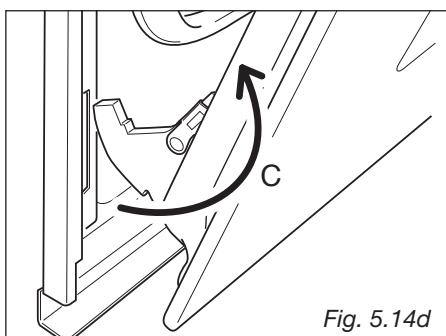

Fig. 5.14d
- Withdraw the hinge hooks from their location following arrow “C” (fig. 5.14d).